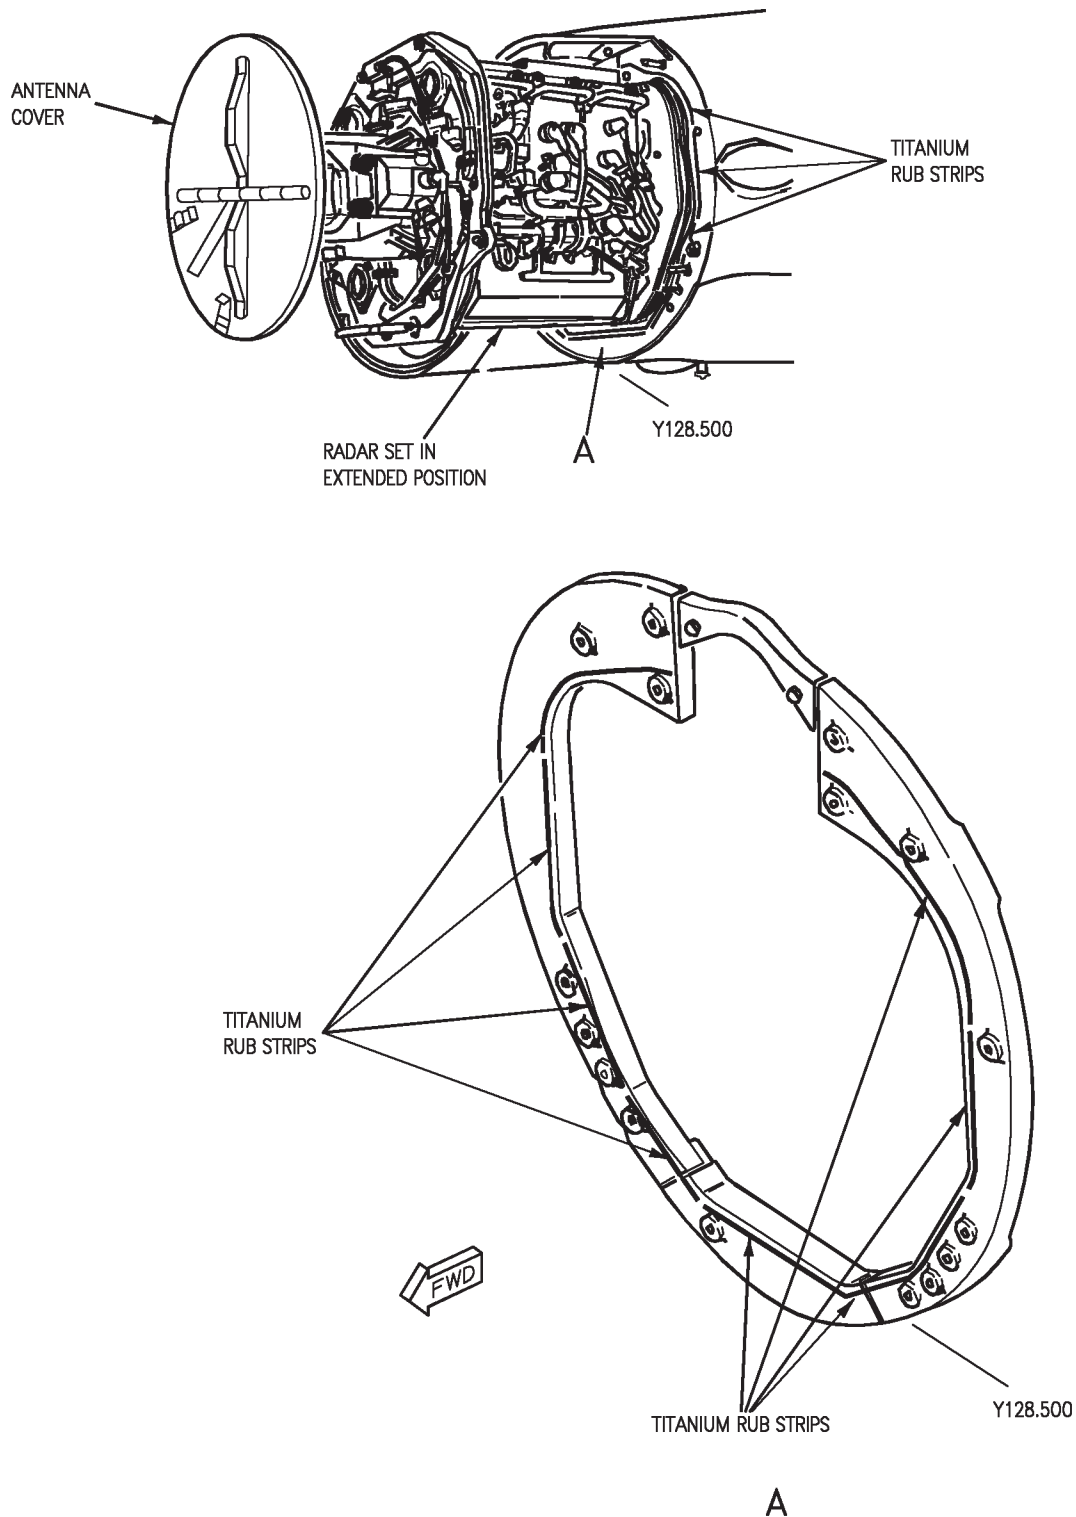

Figure 1. Removal of Titanium Rub Strips
g. Pull titanium rub strips loose from Eccobond adhesive on nose radar former Y128.500. See figure 1.
8. Damage to form in place seal, fluorosilicone sealant, and EMI gasket is repaired by filling damaged area with fluorosilicone sealant. Multiple damages may be repaired if combined total of all damaged surfaces does not exceed 25 % of the length of EMI gasket contact area. See figure 1.